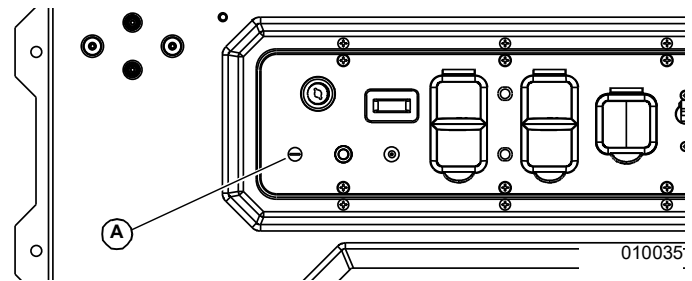

Figure 3-3. Fuse F2 On Control Panel
See **Figure 3-3**. Fuse F2 (A) is located on the control panel. Fuses F1 and F3 are located in the wire harness behind the control panel.